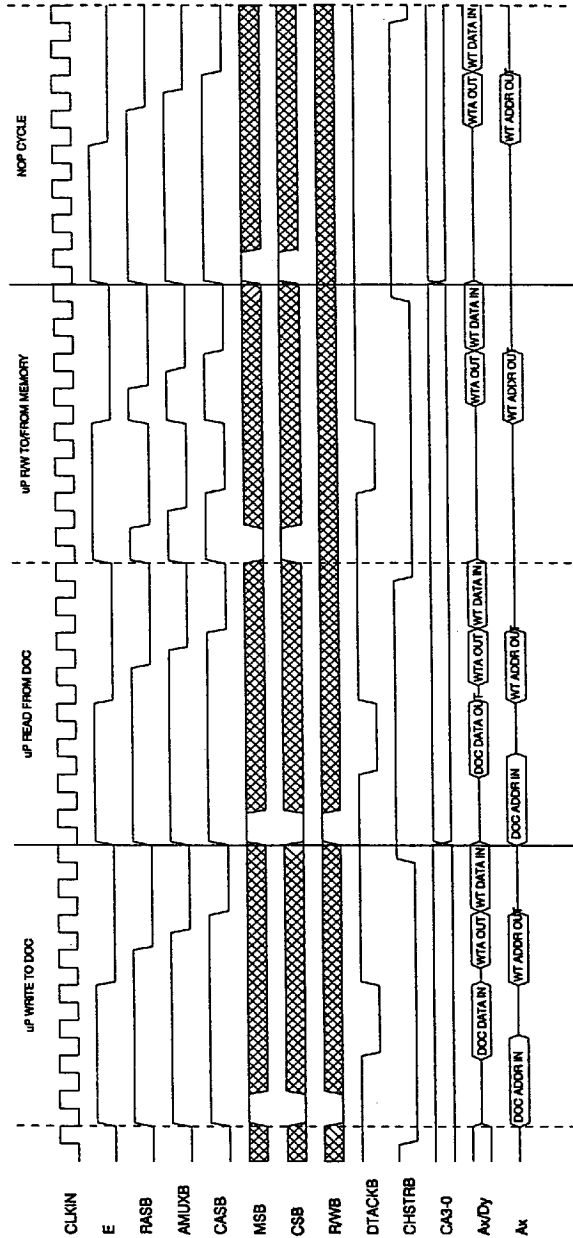

Figure 1: Timing Diagram
The following section describes the function of each pin of the ICS1399. The pins of the chip can be divided into five functional categories: (1) clocks, (2) control, (3) address/data transfer, (4) analog control, and (5) analog outputs. Figure 1 shows the digital waveforms and their timing relationships.